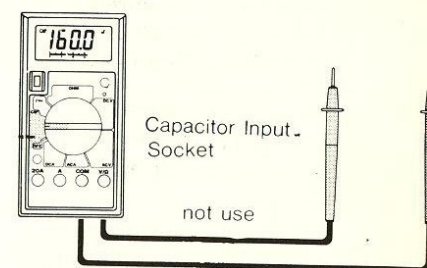

Fig. 5-10 Capacitance Measurement
2. Connect the test capacitor to the input sockets (not test leads) noting the polarity connections when required. See Figure 5-10.